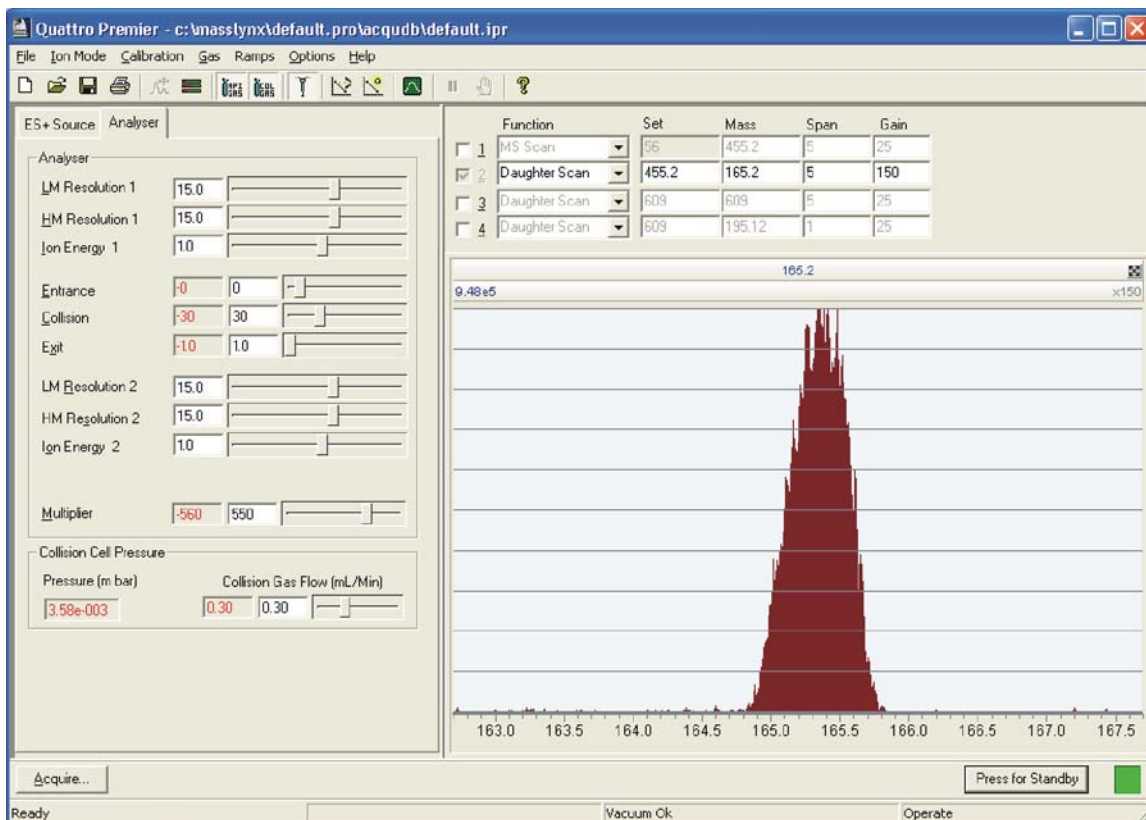

Figure 2-7 Tune Window with a Daughter Ion Peak
1. In the Tune window, select the Function 2 box. The Function 1 box may now be cleared (Figure 2-7).
- In the Tune window, determine the m/z value of the daughter ion peak's center to one decimal place (see Figure 2-7). Record this value.